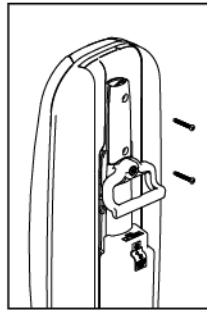
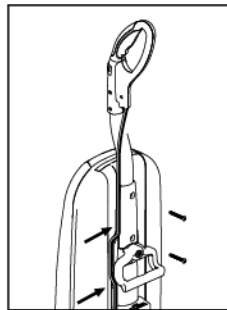

Fig. 1
Fig. 3
- Remove the handle bracket by removing the two screws (Fig. 1).
- Place the handle bracket back into position (Fig. 3).
- Secure with two screws removed in Fig 1. Tuck the cord into the space to the left of the handle (Fig. 3).